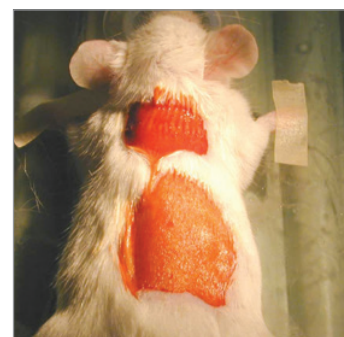

Fig. 1: Shaved, prone mouse on a warming pad prepared for surgery.
1. The mouse is prepared for renal Flowprobe implantation by placement in a prone position on a warming pad to maintain core temperature (Fig. 1).